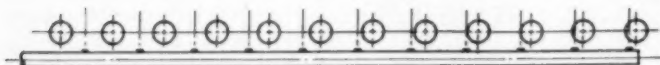

Fig. 4. Incorrect. Due to growth, nozzle is impinging on tube.
- (c) Has the element "shrunk" or "grown" because of excessive heat and repeated chilling by the blowing medium? This will be observed if the nozzles are out of alignment with the tube lanes at one end of the element while in proper alignment at the other end. It is impossible to correct this. The element must be replaced. (See Fig. 4.)